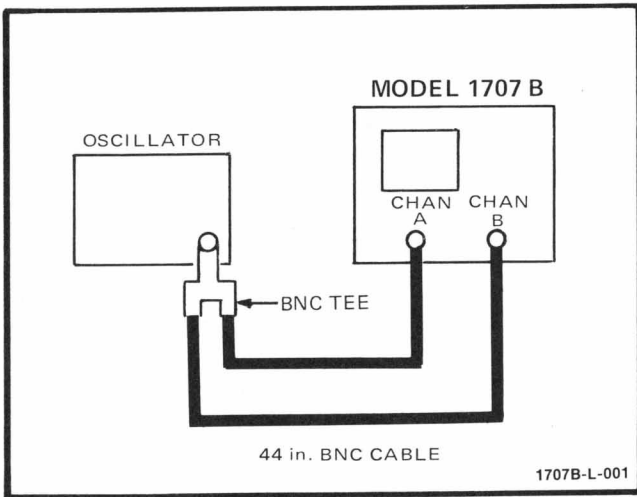

Figure 5-4. A + B Mode Test Setup
- a. Connect instruments as shown in figure 5-4.